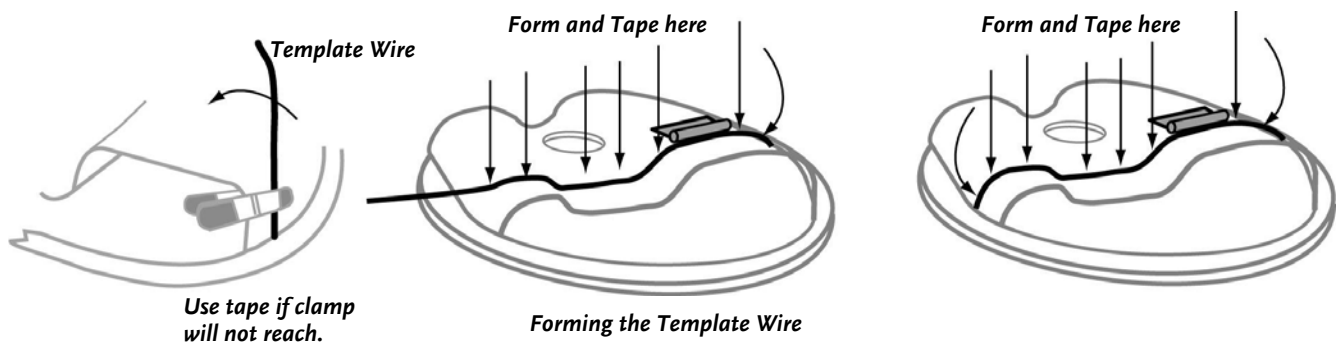

Figure 19
- c) Clamp one end of the Template Wire at the side of the Discharge Chute (**Figure 19**) where you marked the vertical Reference Line.
- d) Now press the Wire tightly down against the contours of your Mower Deck, following the Reference Line points to the opposite side (**Figure 19**). It is best to tape the Wire in place at various points to maintain position as you bend.